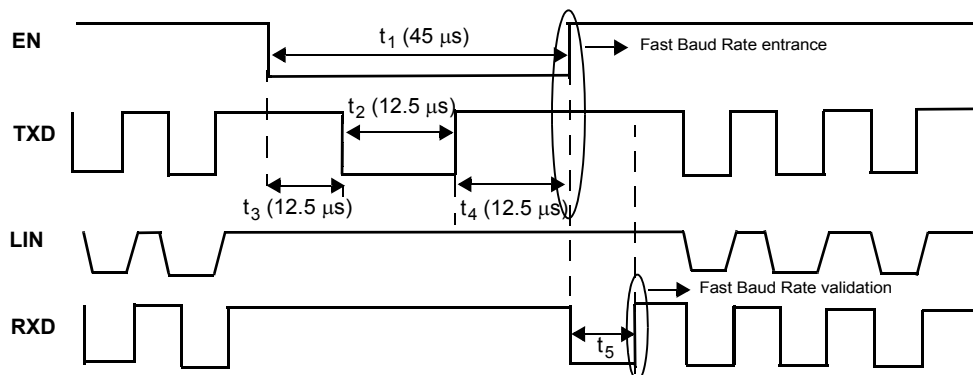

Figure 19. Fast Baud Rate Selection (Toggle Function) for LIN1 or LIN2
30. See Figures 19 and 20
For each LIN Module, the Fast Baud Rate selection is reported by the RXD pin. Fast Baud Rate is activated by the toggle function (See Figure 19). At the end of the toggle function, just after EN rising edge, RXD pin is kept low for t_5 to flag the Fast Baud Rate entry (See Figure 19).
A combination of the logic levels on EN1 (EN2) and TXD1 (TXD2) pins allows the device to enter in Fast Baud Rate mode of operation (see Figure 19).
The LIN Module enters into the fast baud rate if the delay between step 1 to step 5 is 45 μ s maximum. The toggle function is described in Figures 19. Once in fast baud rate, the same toggle function just described previously is used to bring the LIN Module 1 back into normal baud rate.
Fast baud rate selection is reported to the MCU by the RXD1 pin. Once the LIN Module 1 enters in this fast baud rate, the RXD1 pin goes at low level for t_{S} . When LIN Module 1 returns to normal baud rate with the same toggle function, the RXD1 pin stays high. Both sequences are illustrated in Figures 19 and 20.